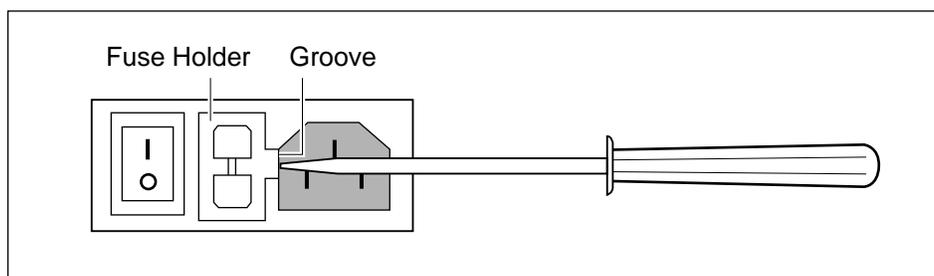

Figure 8-3. Opening the fuse box.
3. Place the end of a screwdriver into the groove and pry out the fuse holder (figure 8-3). When the fuse holder moves outward, grasp the holder and pull it all the way out.